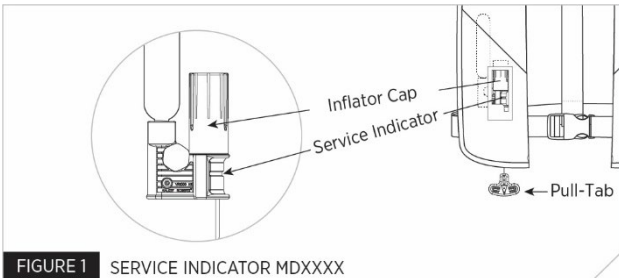

FIGURE 1 SERVICE INDICATOR MDXXXX
1. Examine the status indicator and cap through the window panel (Fig. 1). Ensure the status indicator is green. If the status indicator is red, the mechanism has been fired or is incorrectly fitted (See "Rearming your Flotation Device in Automatic Mode," page 13 if the grey cap is in place, or "Rearming your Flotation Device in Manual Mode," page 14 if the yellow cap is in place).
5. Ensure the status indicator is green and the pull-tab lanyard is hanging on the outside (Fig. 1); secure the hook and loop strips on both sides of the flotation device.
3. Examine the status indicator (Fig. 1). If the status indicator is red, the mechanism has been fired or is incorrectly fitted and the inflater requires service (see “Rearming your Flotation Device in Automatic Backup,” page 13, or “Rearming your Flotation Device in Manual Only,” page 14).